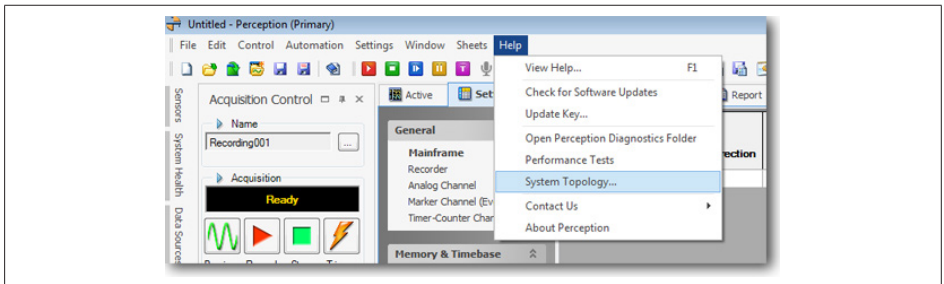

Fig. 15.20 System Topology Help
1. In the menu bar choose **Help ► System Topology** (see Fig. 15.20).